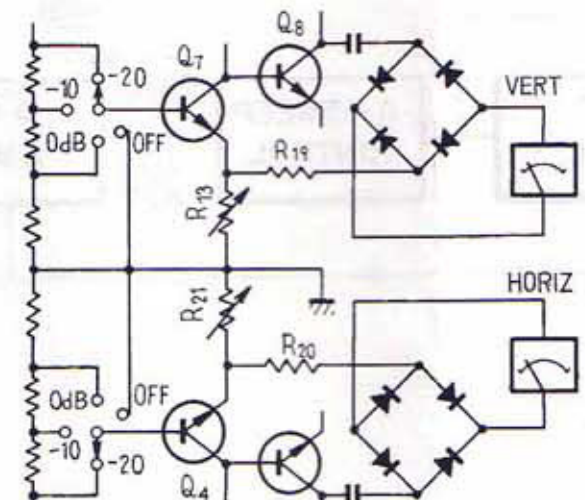

Fig. 5
6.3 METER AMPLIFIER (Fig. 5)
This amplifier is based on a direct coupled two transistor design. Negative feedback is applied through the rectifier bridge, R19 and semi-fixed R13. The diode rectifier bridge has the purpose to maintain good linearity between current and voltage. R13 controls the NFB factor which affects the amplifier's total gain. It is adjusted so that the meter reads 0dB when an input signal of 0.2V is present at the base of Q7 (or Q4) (Fig. 5). Meter sensitivity is adjustable by means of the voltage divider circuit. -20dB position means direct signal input to the top transistor, i.e. maximum sensitivity.